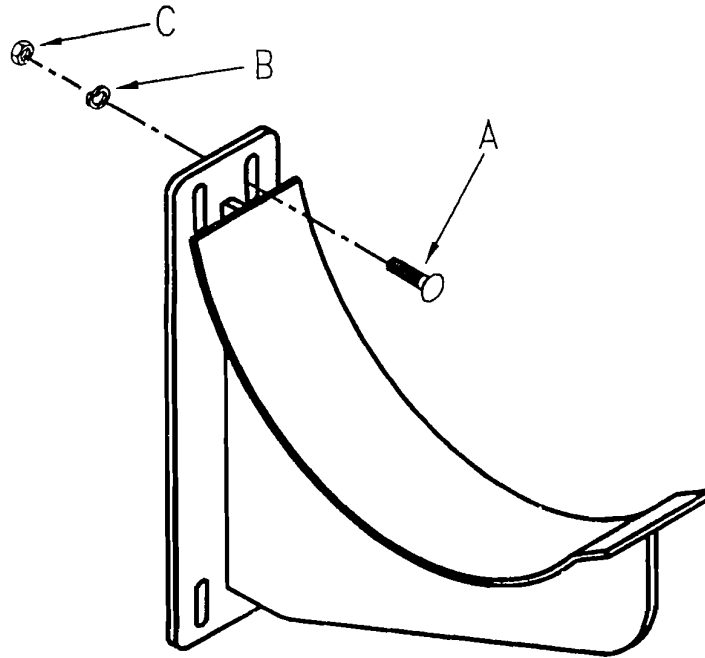

FIGURE 5
1. Position auger rest onto outside left rear corner of grain cart tub with four $3/8"$ x $1\frac{1}{4}"$ carriage bolts (A). Secure assembly with $3/8"$ lock washers (B) and $3/8"$ nuts (C). See Figure 5 below.